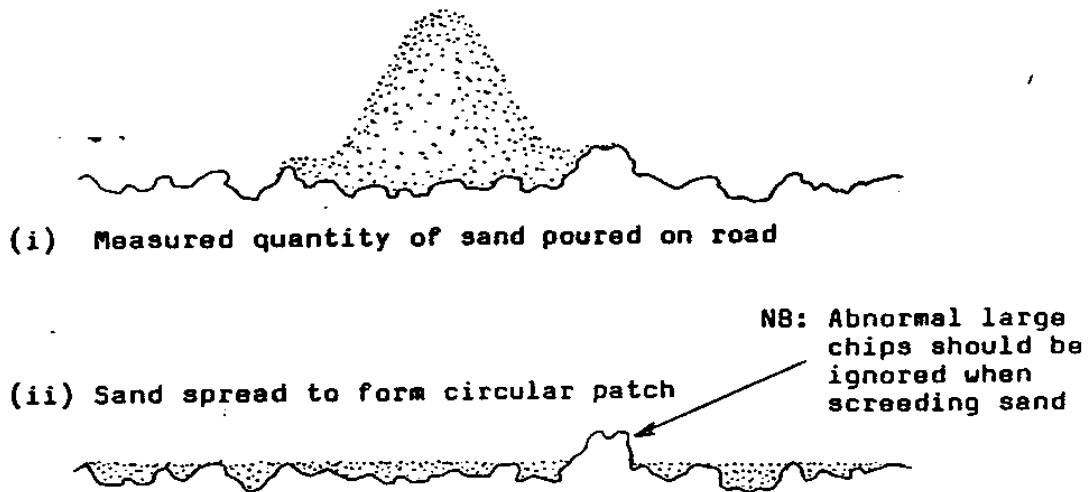

Figure 1. Sand Surface Depression Examples
- 3.4** Using the straight-edge, spread the sand into a circular patch so that the surface depressions are filled to the level of the tops of the stones (see figure 1). The tops of the larger stones (see figure 1). The tops of the larger stones should only just be visible through the sand layer.